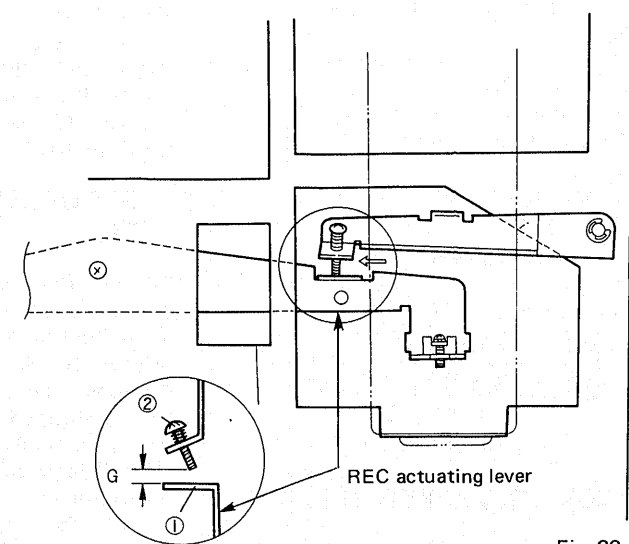

Fig. 29
6.6 REC ACTUATING LEVER (Fig. 29)